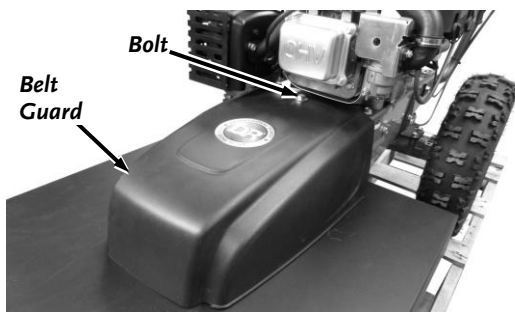

Figure 34
1. Remove the Belt Guard by unscrewing the Bolt using a 9/16" Wrench (**Figure 34**).